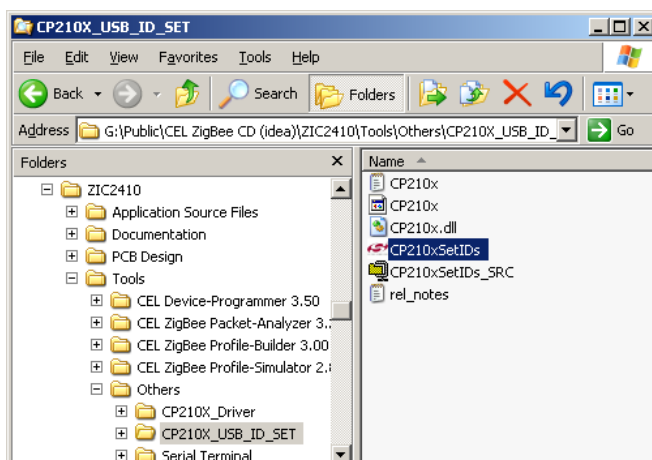

Figure 14 – Screen, Windows Explorer (Running CP210xSetIDs Program)
- 1) To change the serial number, connect only the device which is to be changed (e.g. an evaluation board) to the PC and double click **CP210xSetIDs** on the CP210xSetIDs executable in the directory \ZIC2410\Tools\Others\CP210X_USB_ID_SET\ found on the supplied CD. The window in Figure 14 will appear.